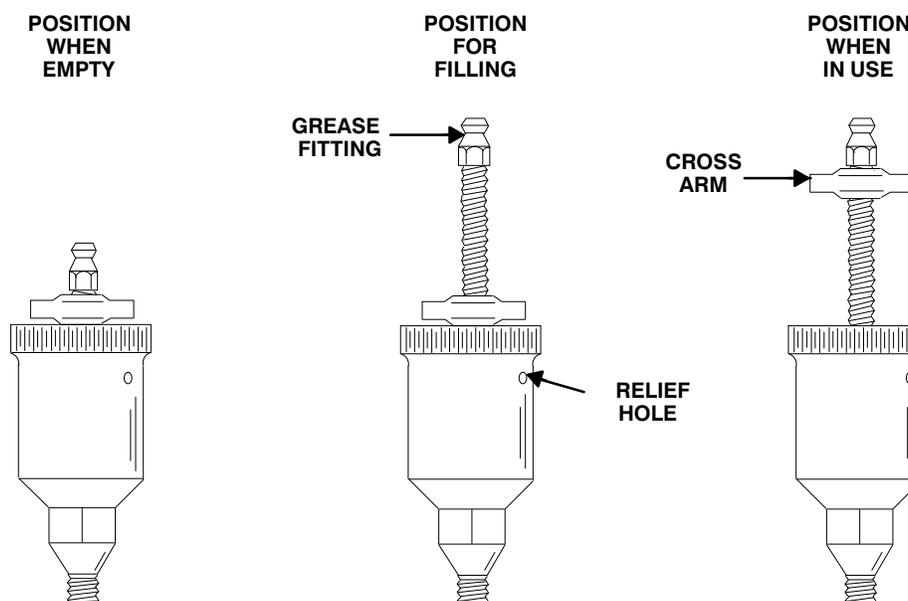

Figure 6. Automatic Lubricating Grease Cup
Fill the grease cup (15) through the grease fitting with No. 2 lithium base grease until grease escapes from the relief hole. Turn the grease cup arm counterclockwise until it is at the top of the stem; this will release the spring to apply grease to the seal (see Figure 6).